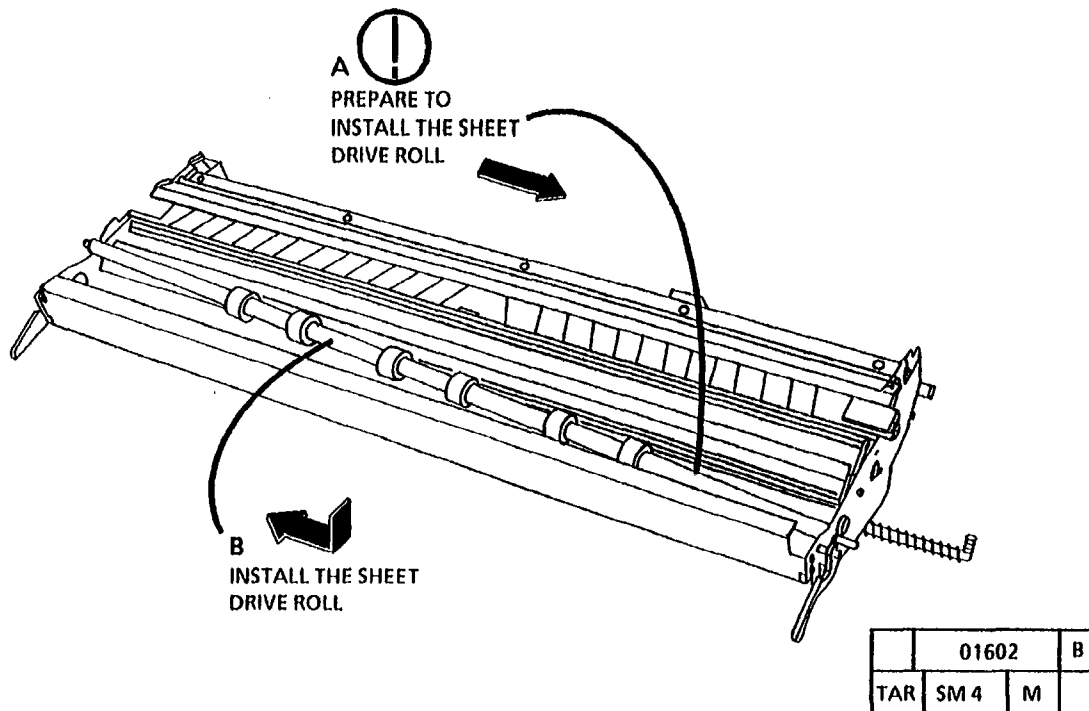

Figure 5. Install the Sheet Drive Roll
1. (Figure 5): Install the Sheet Drive Roll.